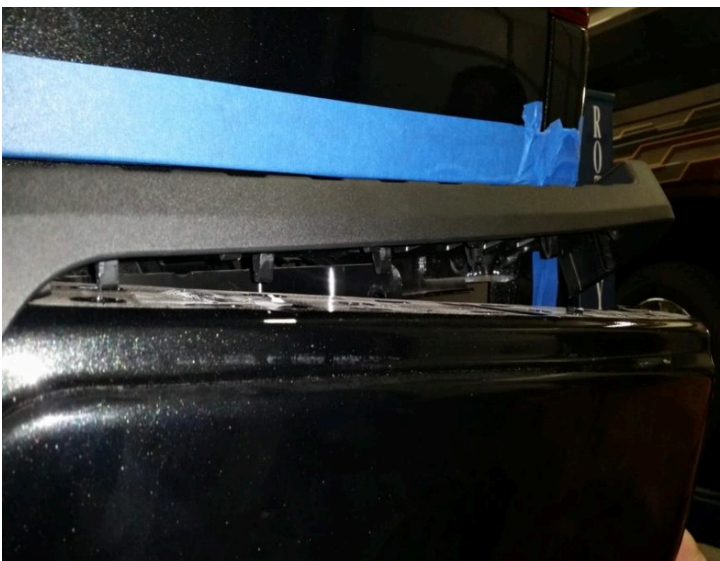

Figure 2
2. Remove one (1) Christmas tree plug and (1) clip connecting the harness to the frame.
4. The OE bumper will come off in 3 pieces. From the outside and starting from the passenger side edge peel away the plastic that is clipped into the top of the bumper (Figure 2). Flat head screwdriver is recommended for removal.